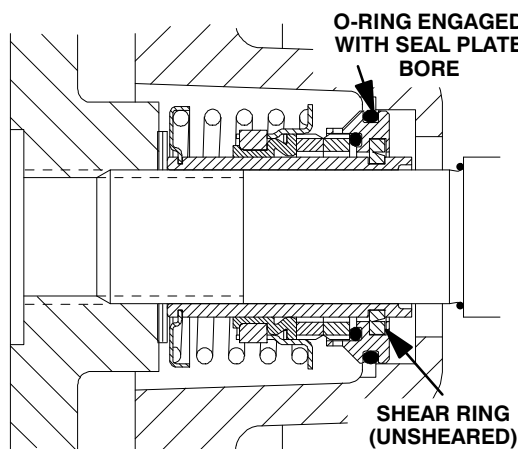

Figure 13. Seal Partially Installed
Clean and inspect the impeller as described in **Impeller Installation and Adjustment**. Install half of the set of impeller shims (3) provided with the seal, and screw the impeller onto the shaft until it is seated against the seal (see Figure 13).